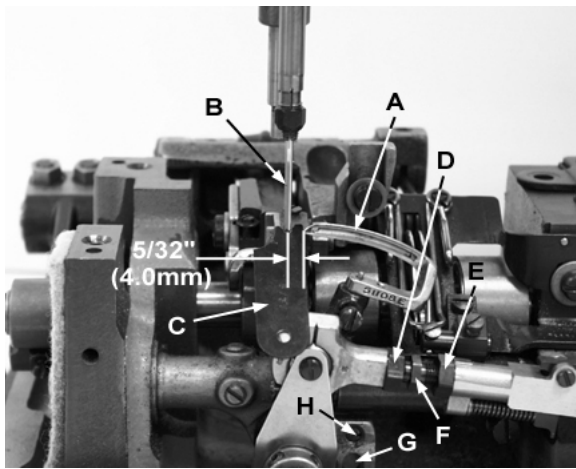
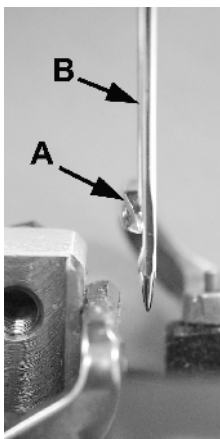

Fig 6
Fig 7
Insert a new needle, type and size specified. Looper gauge is 5/32 inch (4.0mm) which is the distance from point of looper (A, Fig. 6) to centerline of needle (B) when looper is at extreme right end of its travel. Looper gauge No. 21225-5/32 (C) is available for this setting. Adjustment can be made by loosening nut (D), (it has a left hand thread) and nut (E); turn connecting rod (F) as required to attain specified dimension. Hold connecting rod in position and tighten nut (E), then nut (D). NOTE: Be sure that the left ball joint is in a vertical position and does not bind after adjustment.
While turning handwheel in operating direction and the looper (A, Fig. 7) moves to the left, its point should be set to pass the rear of the needle (B) with .003" to .005" (.08 to .13mm) clearance. Adjustment can be made by loosening screw (G, Fig. 6), turn stop screw (H) clockwise to move looper towards the rear, counterclockwise acts the reverse. It is suggested to hold looper towards the front while making this adjustment. Tighten screw (G) after adjustment has been made and recheck movement of looper.